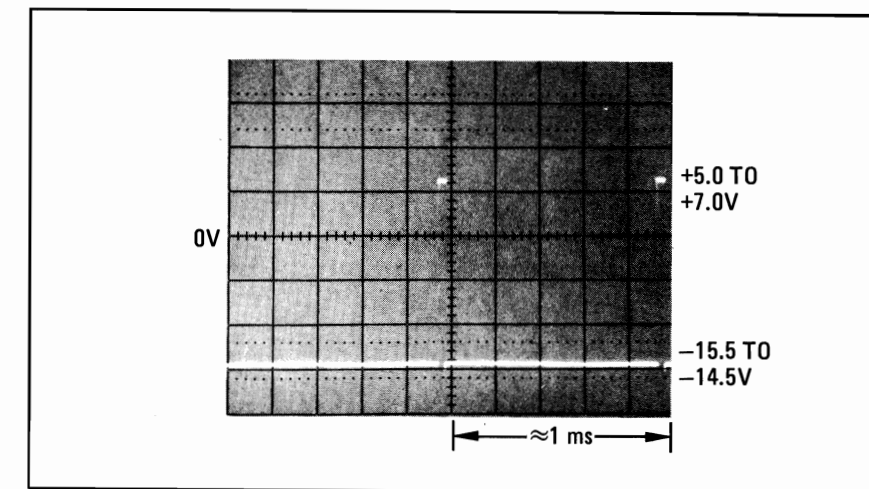

Figure 8-80. Oscillator Leveling Check Waveform D
6. Connect the oscilloscope to pin 13 of U8C. The waveform should be as shown in Figure 8-80.